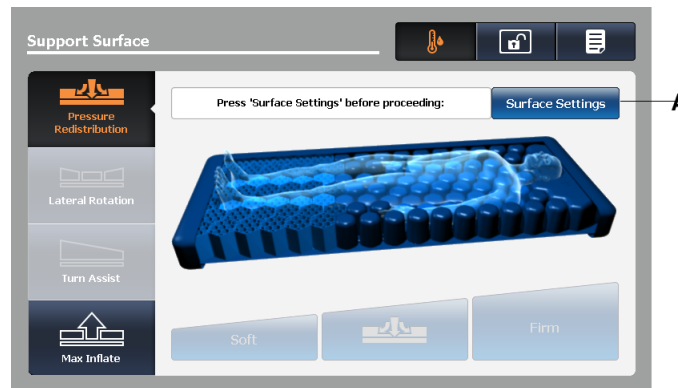

Figure 44: Pressure redistribution screen
Tap **Surface Settings** on the Pressure Redistribution screen (A) (Figure 44 on page 54).